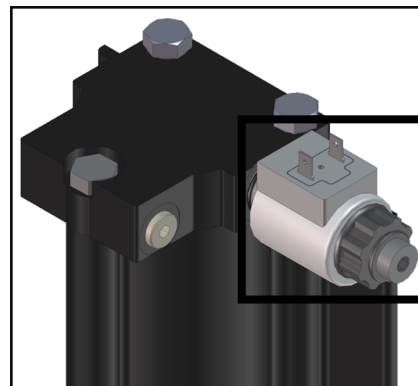

Fig.17
7. Install the cartridge valve and spade coil assembly into the lead landing gear (**Fig.17**).